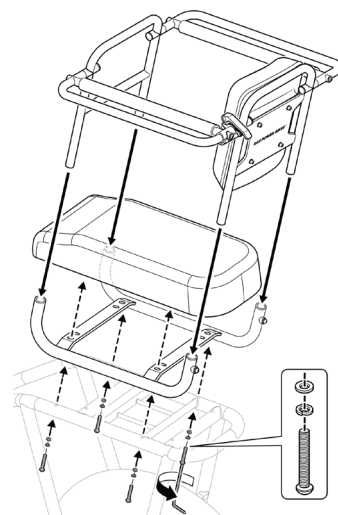

Figure 4 Mounting position on rear rack with thru-bolt mounts.
- Position the Caboose so that the cross bars are aligned with the thru-bolt openings on the outside bars of the rear rack (see Figure 4).